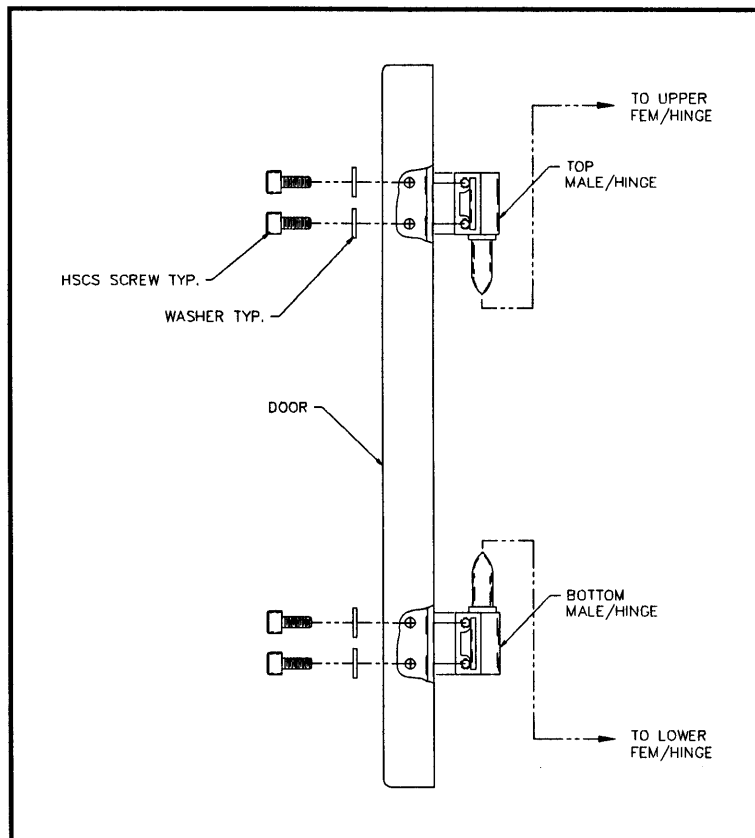

Figure 3.
4. Place new upper female hinge on the spring pin and attach to enclosure with (2) HSCS screws and (2) washers. The spring should come under slight tension as the hinge is drawn into the enclosure body with the attachment screws. Tighten screws.
5. Remove bottom male hinge from enclosure door leaving top male hinge attached. See Figure 3.
8. Position bottom male hinge with hinge pin engaged. Open door partially. Reach in with hand and engage attachment screw several threads deep. When screw is properly started, open door fully and complete the hinge attachment with (2) HSCS screws and (2) washers.